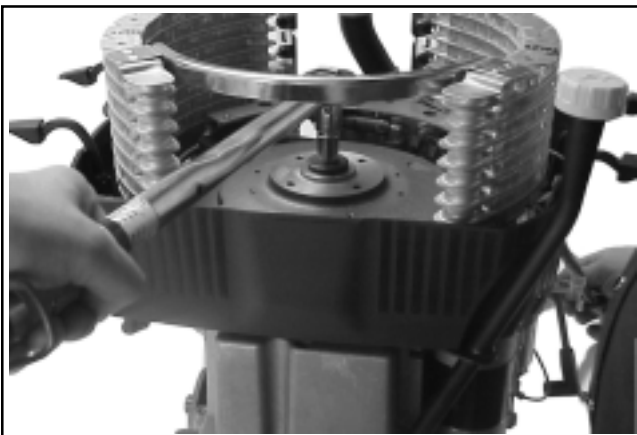

Figure 11-86. Torquing of the Flywheel Mounting Screw and Washer.
5. Use a flywheel holding tool to hold the flywheel and torque the screw to **66.4 N·m (49 ft. lb.)**. See Figure 11-86.